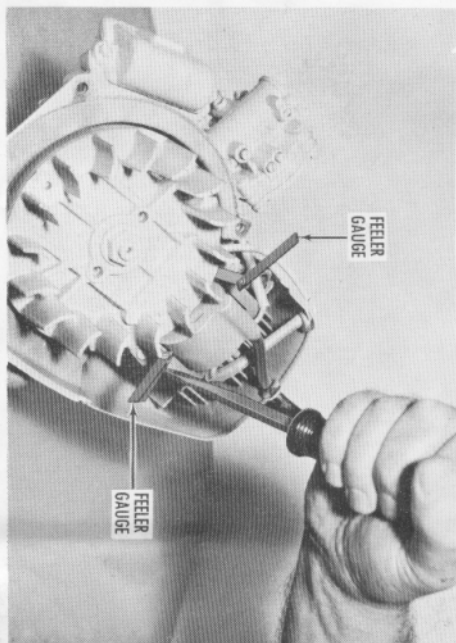

FIGURE 8
4. Insert a 0.010-inch (0.254 mm) feeler gauge under each of the laminations (Figure 8).